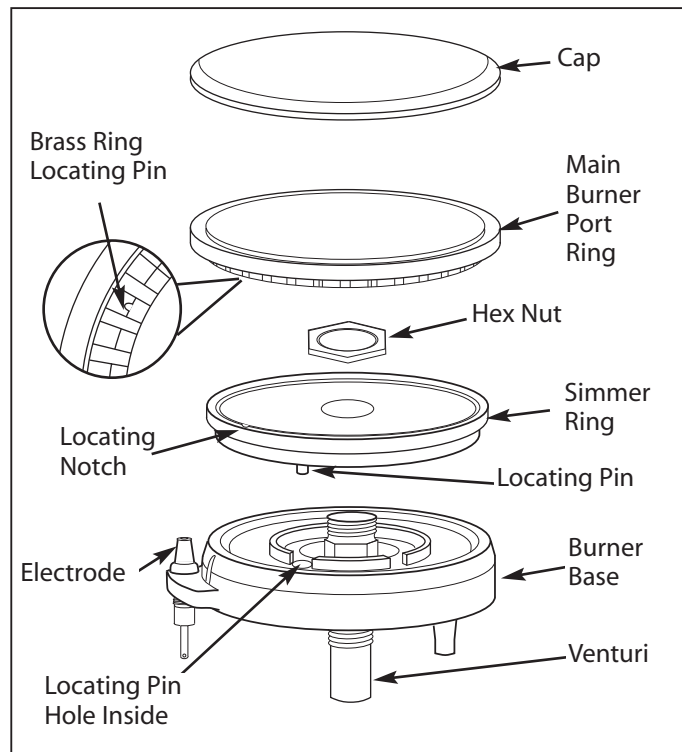

Fig. 14
For proper lighting and performance keep the burners clean. It is necessary to clean the burners if they do not light even though the igniter clicks, if there has been a severe boil over, or when the flame does not burn blue. Be certain all burner knobs are in the off position before attempting to clean the burners. The burners have been designed for ease in cleaning. When the grates and burners are cool, remove the grate. The burner cap and the brass port ring can easily be lifted off. Wash these parts in hot soapy water, rinse and dry thoroughly. The burner caps are porcelain enamel, follow the directions on the previous page that were given for the burner grates. A bristle brush can be used to clean out the toothed burner ports, if necessary. Disassembly of the simmer ring is not recommended, however, it may become necessary to do so if the ports remain clogged after normal cleaning. If it is necessary to disassemble the simmer ring from the base, remove the hex nut at the top of the simmer ring. Clean the simmer ring with hot soapy water using a soft wire or plastic bristle brush then dry thoroughly. Re-assemble the parts using the hex nut. After cleaning, it is important to make sure the locating pin on the bottom side of the simmer ring is properly aligned with the corresponding hole in the base and that the locating pin (see insert) in the bottom side of the brass port ring is properly aligned with the locating notch on the top side of the simmer ring. Incorrect alignment will produce a potentially dangerous flame and poor burner performance (see fig. 14).
Incorrect alignment will produce a potentially dangerous flame and poor burner performance (see fig. 14).
- Is the two piece burner put together correctly? (See page 27, fig. 14)
- Is the burner head assembly aligned correctly? (See page 27, fig. 14)